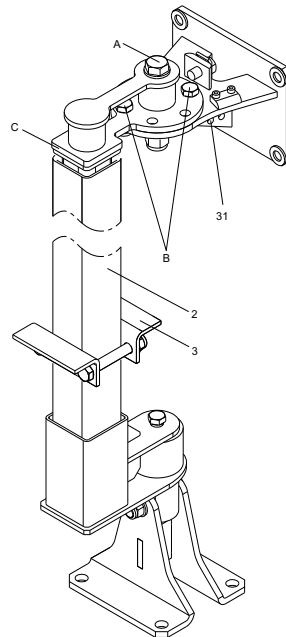

Fig. 11 Fixation
6. Depending on the length of the column profile, weld the turnable part of an intermediate fixation bracket (pos. 19) to the column profile.
7. Position and align the column profile in the bottom fixation bracket. Shorten the column profile (pos. 2) to the correct length to match the position of the insulator (pos. C) at the top fixation bracket. A gap of 5 to 10 mm between collar of insulator and column profile is optimal. See fig. 11.